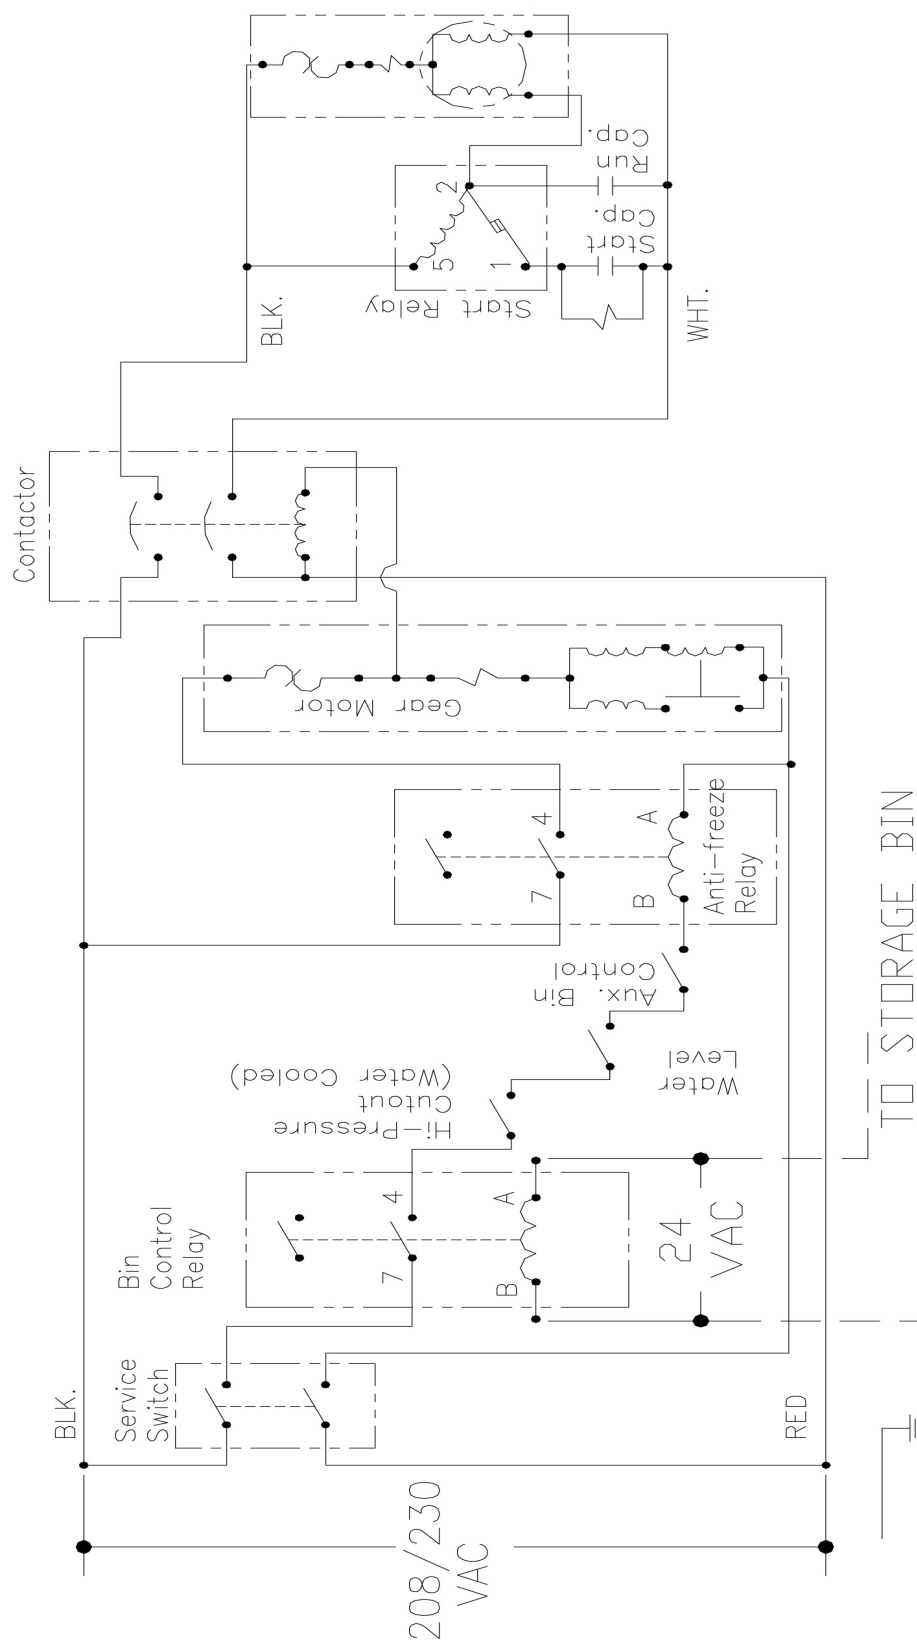

Figure 13. Wiring Diagram
2. Gearmotor thermal overload, manual reset type (red button on motor). See Wiring Diagram Figure 13.
4. Anti-freeze relay and associated circuit. See Wiring Diagram Figure 13.
5. Main service switch located on top of the control box. See Wiring diagram Figure 13.